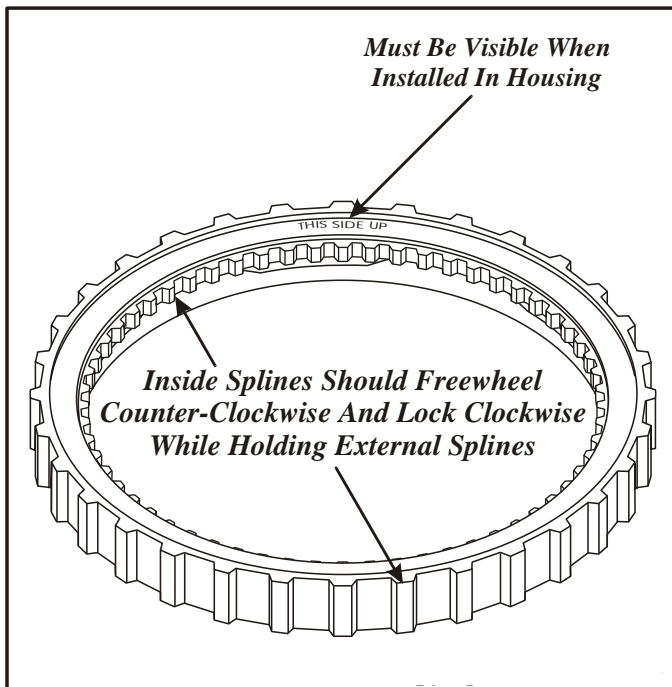

Figure 97
3. Inspect coast clutch pressure plate which now incorporates the mechanical diode one way clutch, as shown in Figure 97.
Note: Inside splines should freewheel in the direction shown in Figure 97, and lock in the opposite direction.